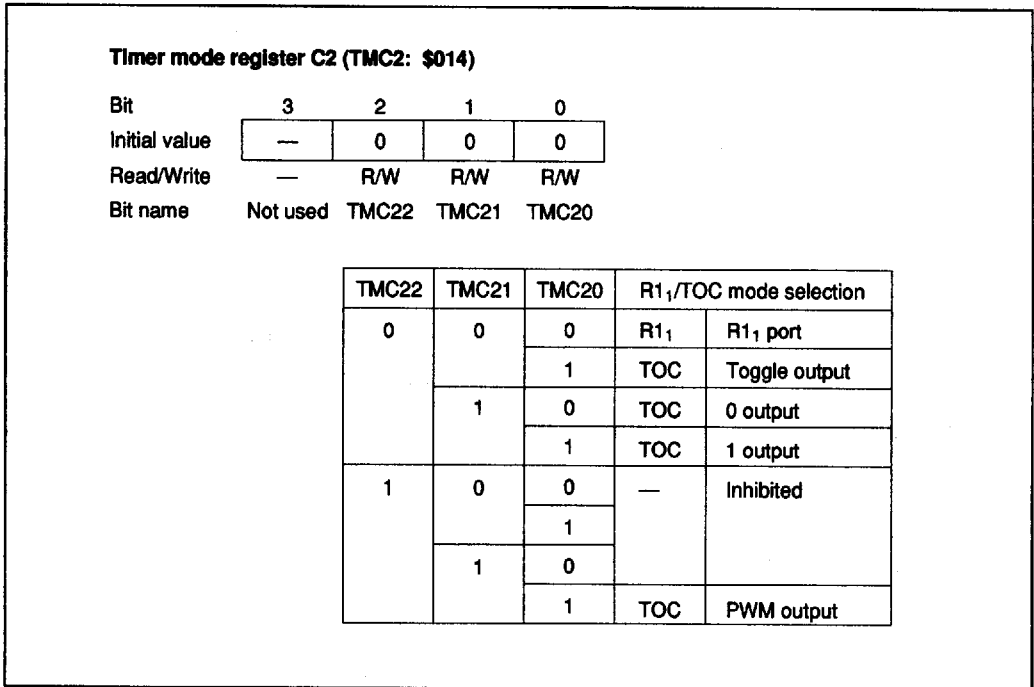

Figure 56 Timer Mode Register C2 (TMC2)
- **Timer mode register C2 (TMC2: \$014):** Three-bit read/write register that selects the timer C output mode as shown in figure 56. It is reset to \$0 by MCU reset.